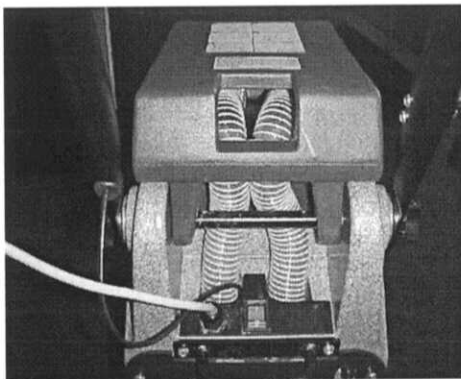

Figure 5
1. Turn main power switch on (Figure 5).